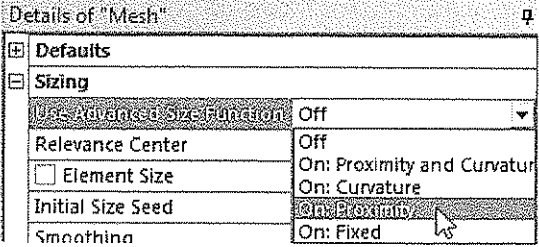

Figure 7-47 Selecting the On: Proximity option from the Use Advanced Size Function drop-down list
- 6. In the **Sizing** node, select the **On: Proximity** option from the **Use Advance Size Function** drop-down list, as shown in Figure 7-47. The default selection in this drop-down list is **Off**.